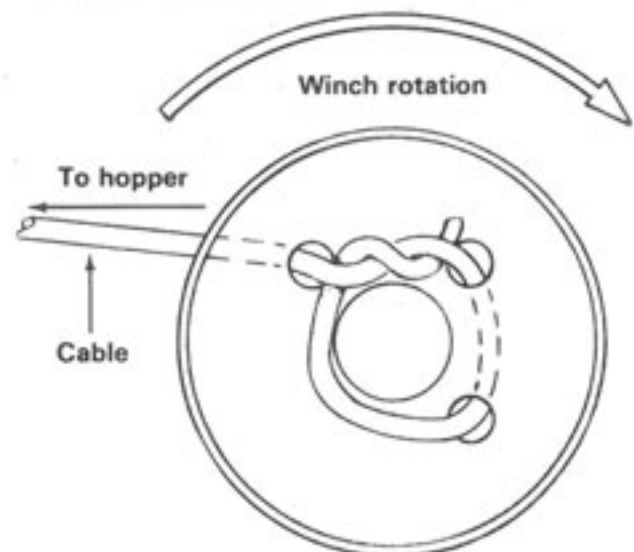

Figure 3
5. Anchor the end of the cable to the winch drum as shown in Figure 3. Crank the winch to take up the slack. Keep a minimum of four wraps of cable on the winch drum.